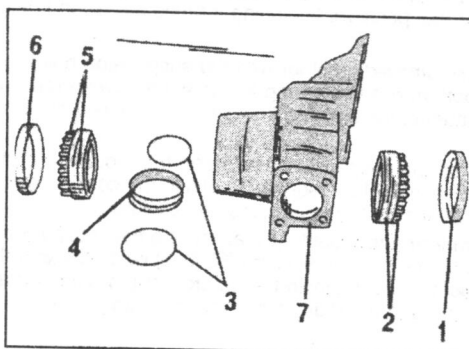

Fig. 5.10. — The component parts of a dismantled steering knuckle.
- Place the steering knuckle over a vice and drive the two bearings (2) and (5) in Fig. 5.10 out of the knuckle. The two grease seals (1) and (6) will come away together with the bearings.
- Grip the end of the bolt (1) and move it to and fro, at the same time observing the dial gauge reading. The indication should be between 0.025 and 0.10 mm.
- If the clearance is not within the limits, shims (7) in Fig. 5.10 must be increase or decreased in their thickness. Shims are available in different sizes.
- Grease the bearing (5) in Fig. 5.10 and drive it into the steering knuckle. Fit the grease seal (6) into the steering knuckle until the outside is flush.